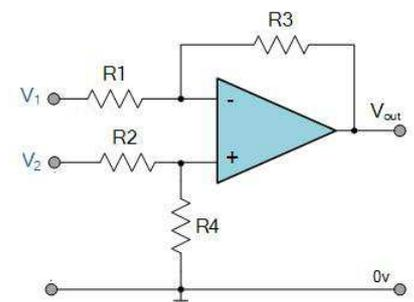

Figure 13
- 1- Construct the circuit shown in Figure 13 using **$R1 = R2 = R3 = R4 = 10K\Omega$** .